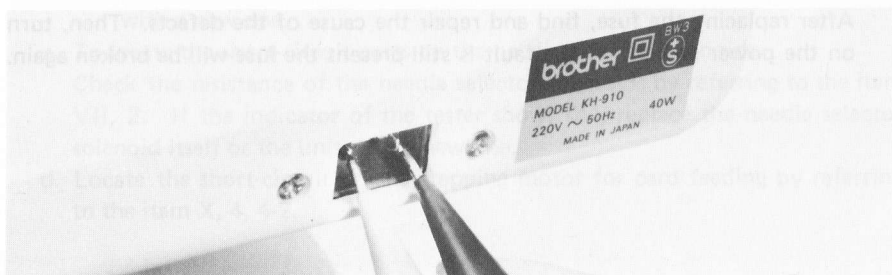

Fig. 20
- Connect both terminals of the tester to both pins of the AC. inlet. (Fig. 20).